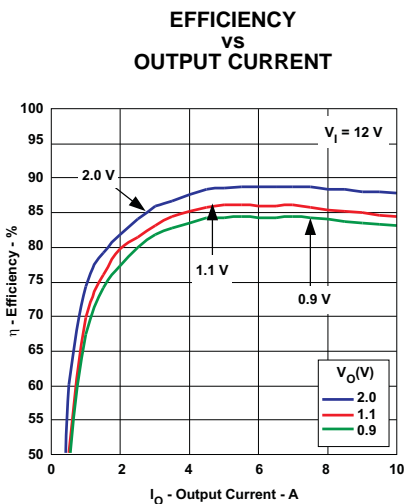
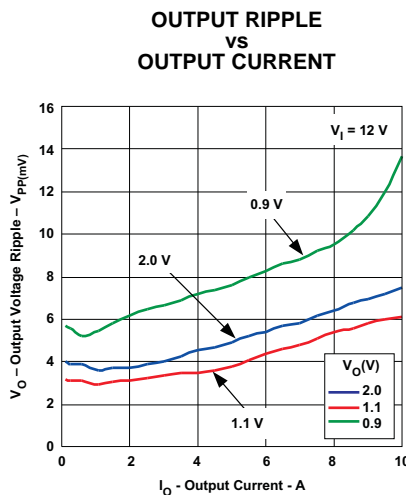
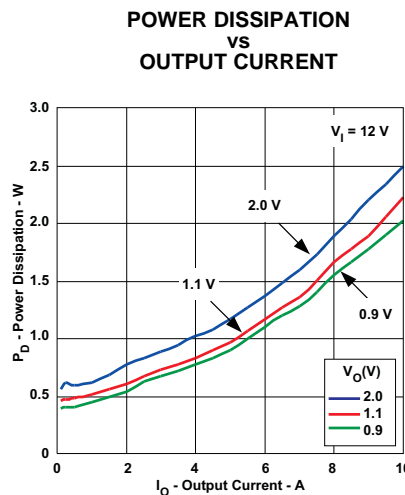
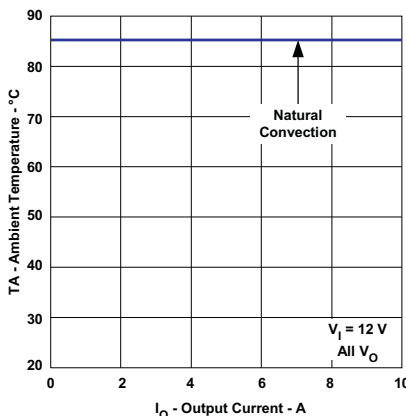

Figure 9.
Figure 10. See Note 2 below
Figure 11.
Figure 12.
- (1) The electrical characteristic data has been developed from actual products tested at 25°C. This data is considered typical for the converter. Applies to , Figure 9, Figure 11 and Figure 10.
- (2) Output ripple may increase up to 2x when operating at input voltages greater than ( $V_O \times 11$ ). See the Smart Sync section of the datasheet for input voltage and frequency limitations.
- (3) The temperature derating curves represent the conditions at which internal components are at or below the manufacturer's maximum operating temperatures. Derating limits apply to modules soldered directly to a 100 mm x 100 mm double-sided PCB with 2 oz. copper. For surface mount packages (AS and AZ suffix), multiple vias must be utilized. Please refer to the mechanical specification for more information. Applies to Figure 12.